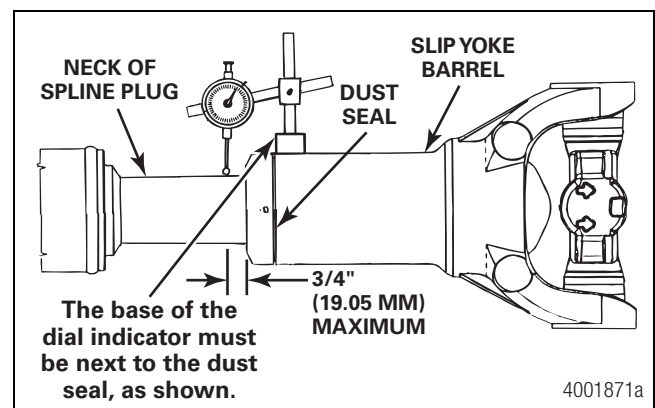

Figure 4.13
- Firmly mount a dial indicator with a magnetic base onto the slip yoke barrel next to the dust seal. Figure 4.13. You don't want the dial indicator to move when you check the slip yoke for looseness, or the measurement will not be correct.
- Extend the dial indicator arm from the base, so that it contacts the neck of the spline plug within 3/4-inch (19.05 mm) from the dust seal. Figure 4.13.